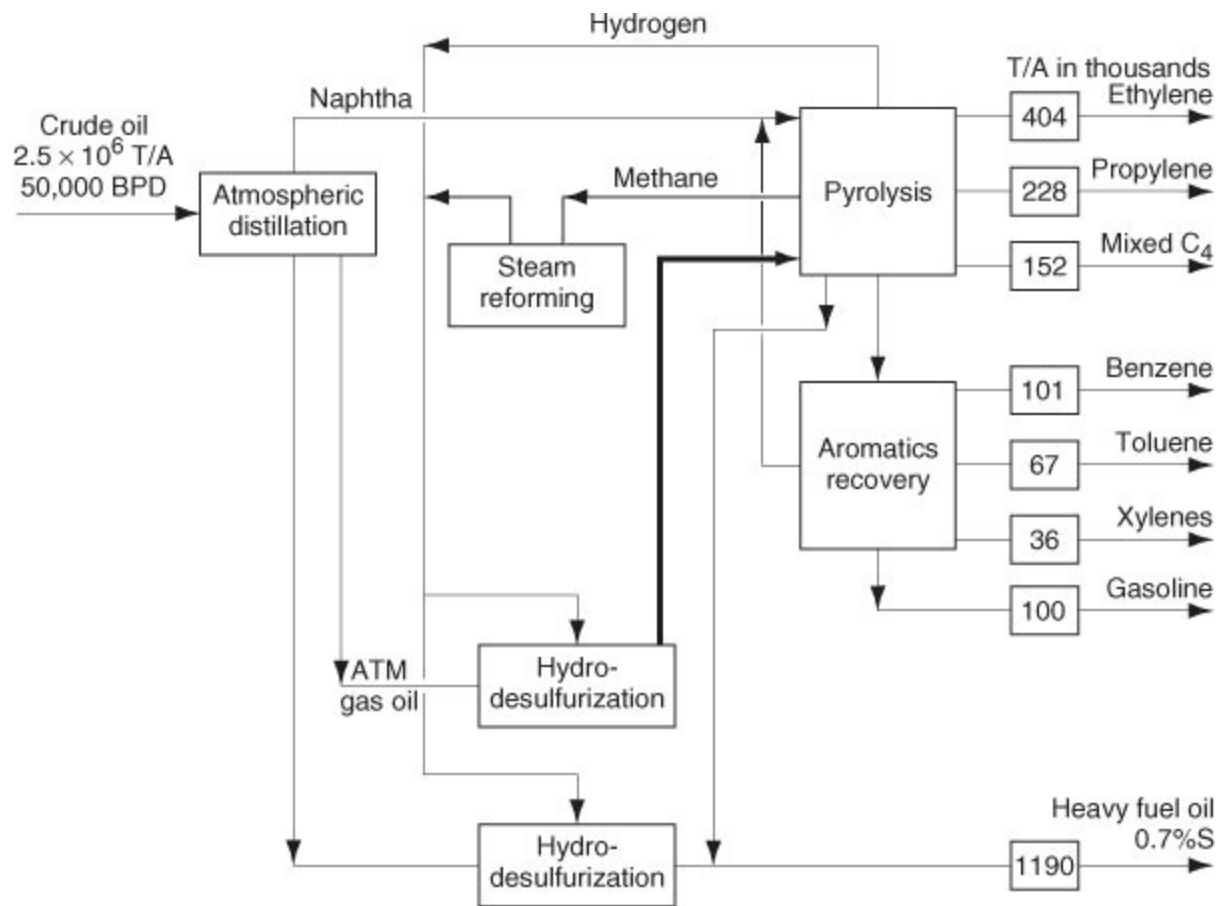

Figure P3.1.15
***3.1.15. Examine the flowsheet in Figure P3.1.15 [adapted from *Hydrocarbon Processing*, 159 (November, 1974)] for the atmospheric distillation and pyrolysis of all atmospheric distillates for fuels and petrochemicals. Does the mass in equal the mass out? Give one or two reasons why the mass does or does not balance. Note: T/A is metric tons per year.